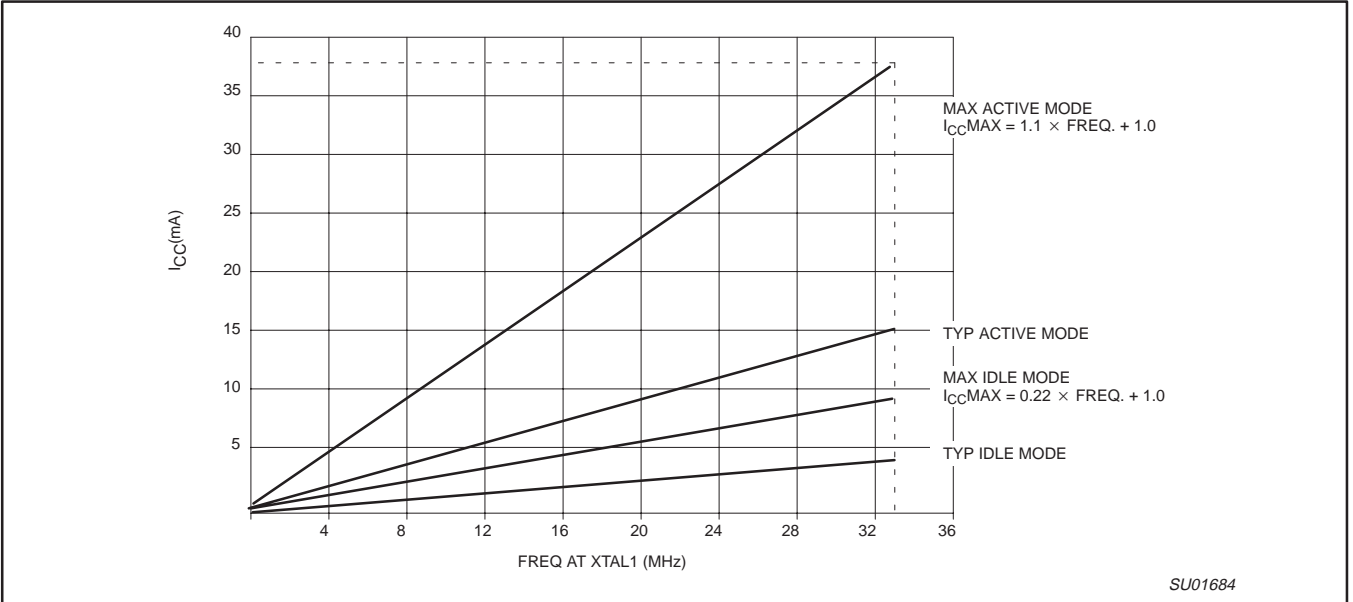

Figure 41.  $I_{CC}$  vs. FREQ for 12-clock operation
- See Figures 43 through 46 for  $I_{CC}$  test conditions and Figure 41 for  $I_{CC}$  vs. Frequency.